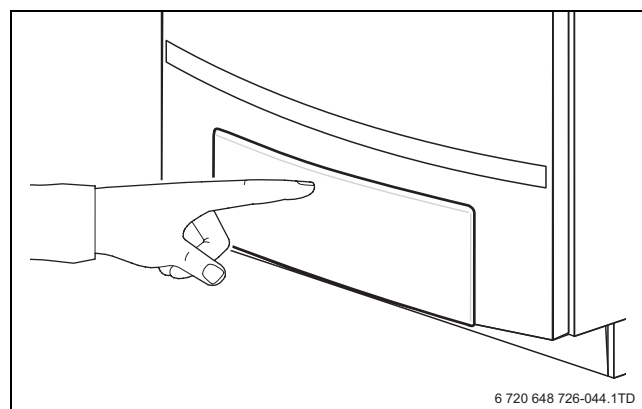

Fig. 44 Opening the control panel
- Push the arrow on the control panel cover to open (→ fig. 44).